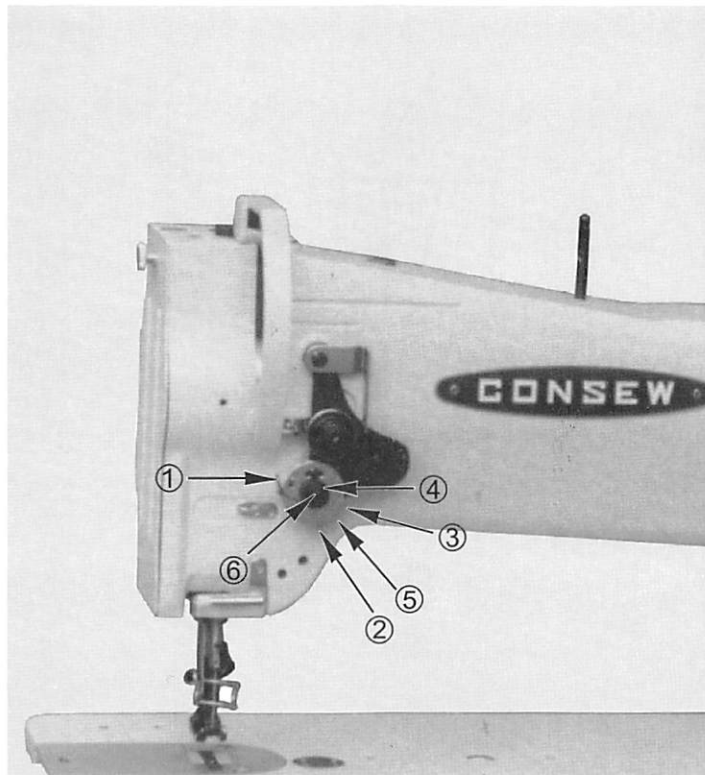

Fig. 24
Normally, the thread controller spring (①, Fig. 24) should hold slack of the upper thread until the needle reaches to the goods, and it should pause while raising of the needle and passing of the upper thread through the bobbin case.
Loosen the stop screw (②, Fig. 24), move the stop (③, Fig. 24) to the right (For less action, move it to the left). Tighten the screw.
Loosen the serrated nut (④, Fig. 24) and the screw (⑤, Fig. 24).
Turn the tension stud (⑥, Fig. 24) slightly to the left to strengthen the tension (to lighten the tension, turn to the right) with a screw driver. Tighten the screw and nut upon completion of adjustment.